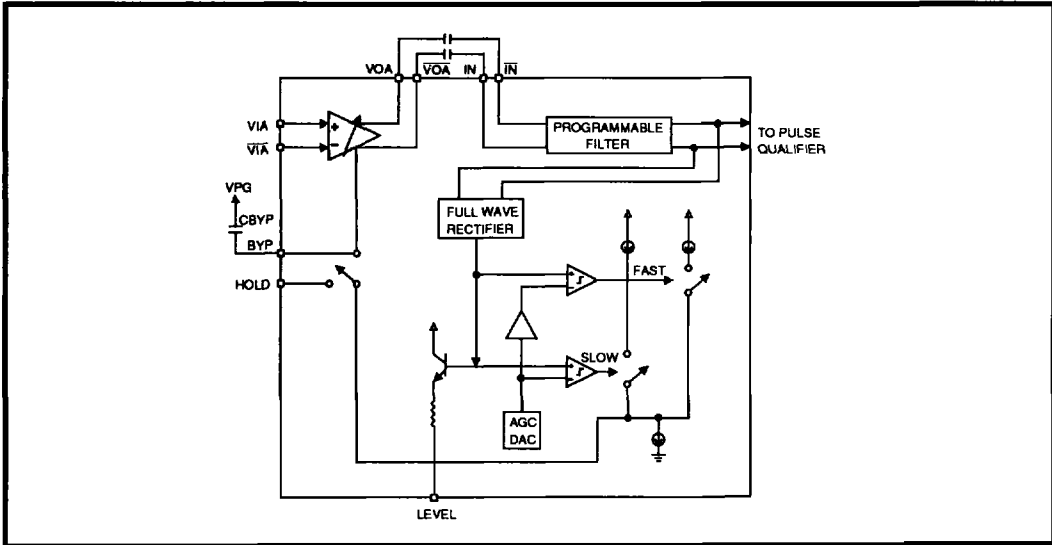

FIGURE 1: AGC Block
The gain of the AGC amplifier is controlled by the voltage (V_{BYP}) stored on the BYP hold capacitor (C_{BYP}), Figure 1. A dual rate charge pump drives C_{BYP} with currents that depend on the instantaneous differential voltage at the DP/DN pins. Attack currents lower V_{BYP} which reduces the amplifier gain, while decay currents increase V_{BYP} which increases the amplifier gain. When the signal at DP/DN is greater than 100% of the programmed AGC level, the nominal attack current of 0.21 mA is used to reduce the amplifier gain. If the signal is greater than 125% of the programmed AGC level, a fast attack current of nine (9) times nominal is used to reduce the gain. This dual rate approach allows AGC gain to be quickly decreased when it is too high yet minimizes distortion when the proper AGC level has been acquired.